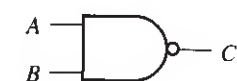

Fig. 2
2. Figure 2 shows a NAND gate with two inputs, *A* and *B*, and one output, *C*. Four such gates are contained in a 74LS00 chip, the pin assignment of which is shown in Fig. 3. Connect this chip to a 5 V power supply, as shown in the figure. Connect a voltmeter to the output of a NAND gate on the chip. In the following steps, you will be asked to apply an adjustable voltage at the input(s) of this gate and to observe and plot the behavior of the output voltage (at *C* in Fig. 2) as the input voltage is changed from 0 to 5 V. **Make sure that the input voltages do not exceed V_{CC} in any case.**